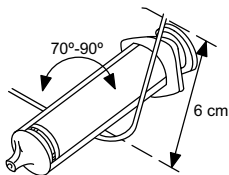

Figure 3. Curve the stylet
2. Select a stylet according to the function and to the preferred firmness. If desired, gently curve the stylet with any sterile, smooth-surfaced instrument (e.g., 10-cc or 12-cc syringe barrel) (Figure 3 Curve the stylet on page 15).